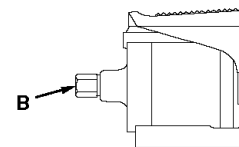

Figure 5
1. See Figure 5. Connect a 9 CFM [15 m³/h] (minimum) air supply source to the $\frac{1}{4}$ " [0,5 cm] NPTF pump air inlet swivel connector (B). Use only $\frac{1}{4}$ " [0,5 cm] hose or quick disconnect fittings. Larger, heavier fittings are not recommended. Use a high-grade pipe thread sealer to seal the connection.